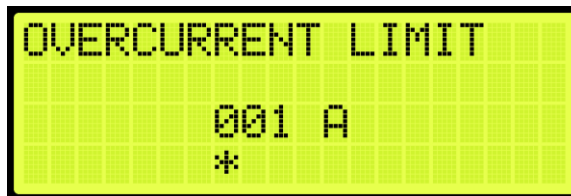

Figure 318: OVERCURRENT Menu
5. From the OVERCURRENT menu, enter the maximum current allowed (See Figure 318).